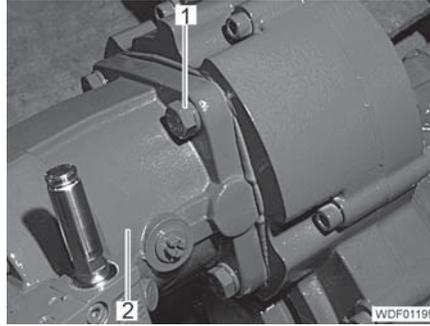

Fig. 120 Variable displacement motor attachment
- Loosen the 4 screws (Fig. 120,1) but do not unscrew them.
- Get a second person to help you hold the variable displacement motor (Fig. 120,2) securely in place.
- Coat the thread of the 4 screws (Fig. 120,1) with locking agent.
- Carefully (two people!) insert the variable displacement motor (Fig. 120,2) into the rear axle and screw in the 4 screws.